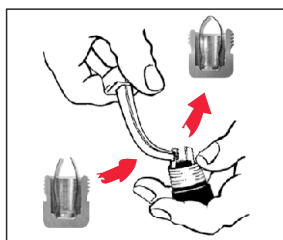

Fig. 2
2. For increase of the spring pressure bend both spring leaves so that they are in the top part more curved (see Fig. 2).